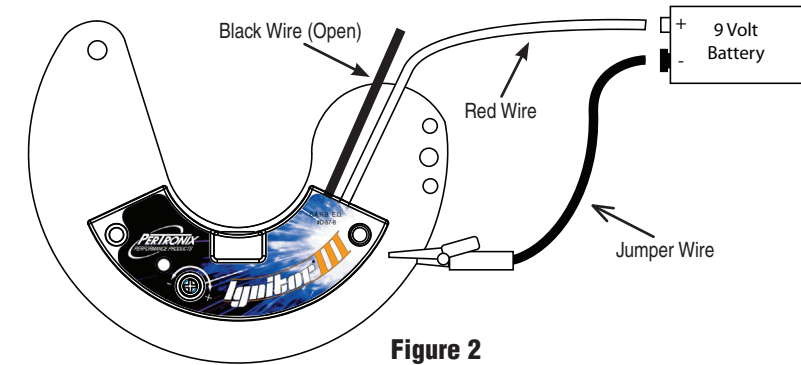

Figure 2
**NOTE:** Setting the rev limit may be done effectively and easily on a bench or table. Connect the module to a 9-volt battery as shown in figure 2. Then follow the setting procedure outlined above.